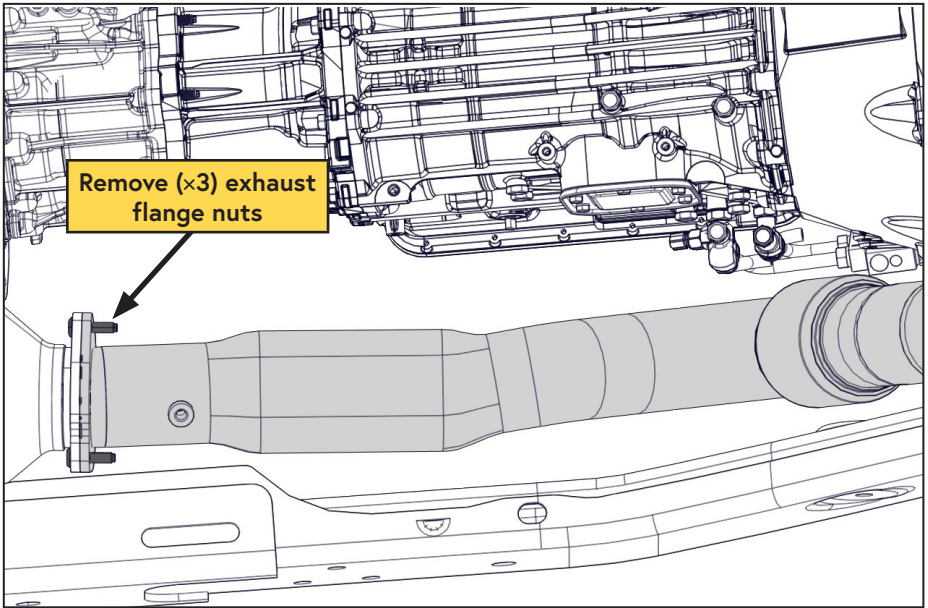

Figure 8 — Exhaust flange
- ☐ Remove the nuts from the exhaust flange and set them aside for later (Figure 8).